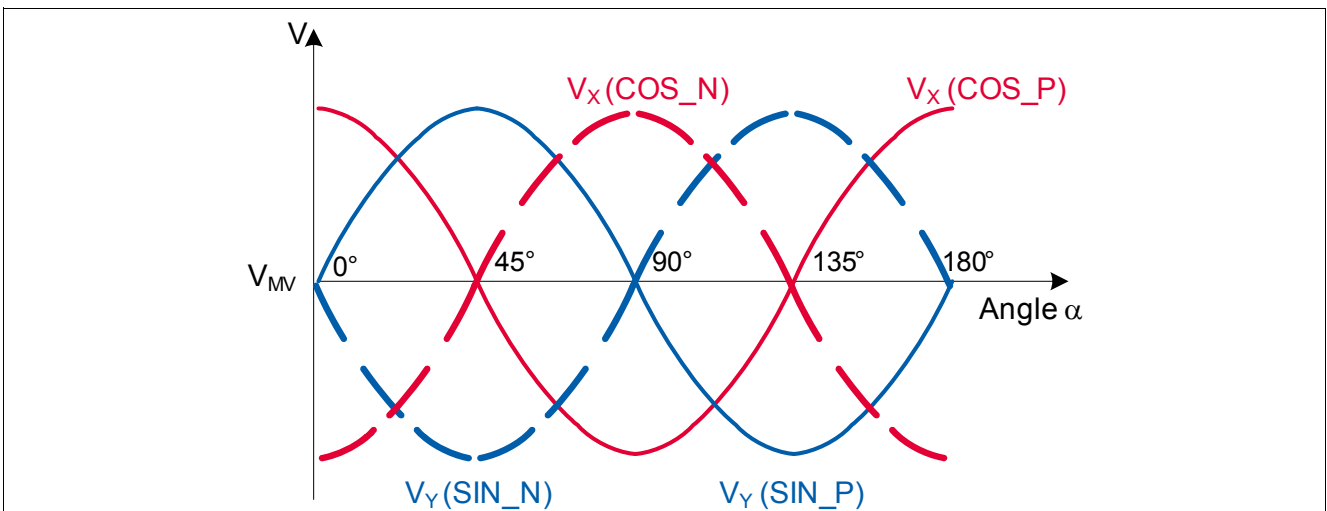

**Figure 4 Sensitive bridges of the AMR sensor (bottom die)**
*Note: In Figure 4, the size of the sensitive areas is greatly exaggerated for better visualisation.*